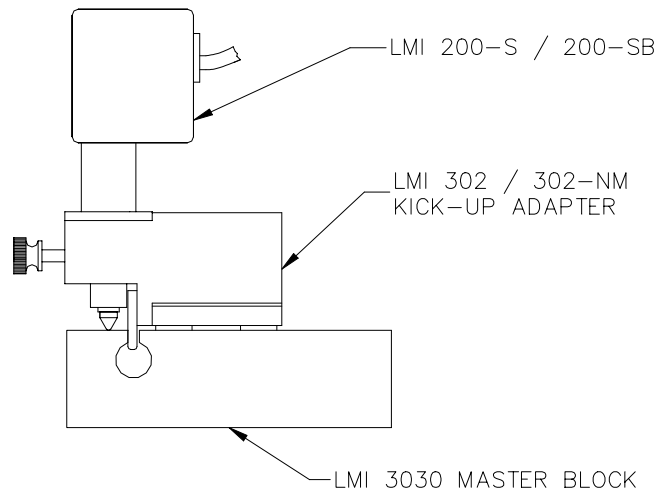

Figure 1
1. Insert the LMI 200 into the 302 or 302-NM kick-up adapter & tighten screw. (see figure1)
2. Put the 302 into the mastering position on the master block. (see figure1)